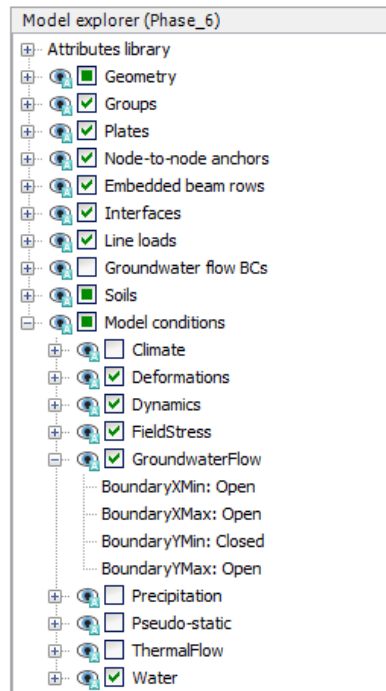

Figure 92: The GroundwaterFlow subtree under the Model conditions in the Model explorer
9. In the **Model explorer** expand **Model conditions** > **GroundwaterFlow**. The default boundary conditions are valid which is shown in Figure 92 (on page 115).